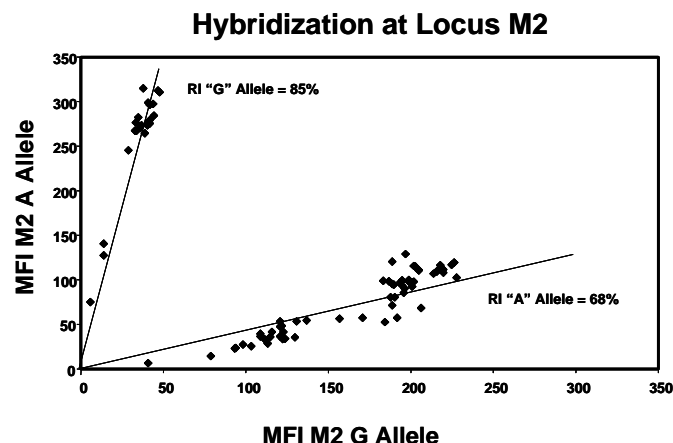

Figure 1. Raw MFI signals at locus M2. Although MFI levels can vary, relative intensity levels are nearly constant for each allele.
- 4) Figure 1 shows the raw MFI data from 85 individuals at the M2 locus, collected on different days, machines, analysts, and DNA inputs. Although the MFI values vary considerably, the values cluster tightly around lines that correspond to a relative intensity of 88% for the G allele or a relative intensity of 68% for the A allele.